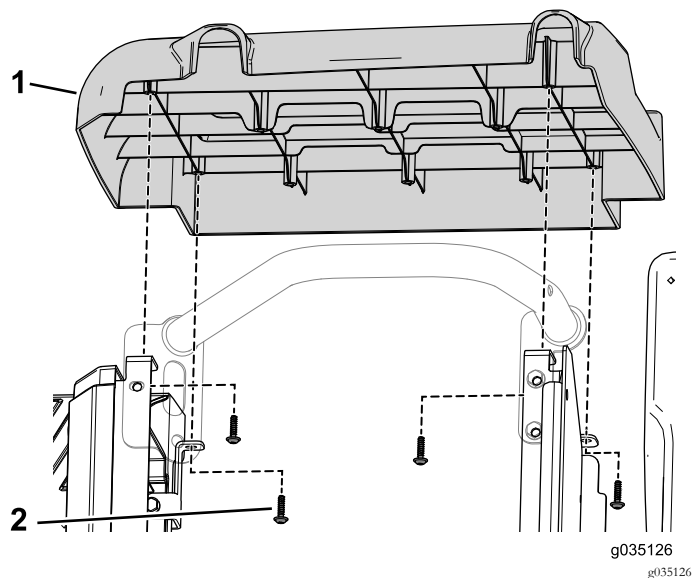

Figure 55
3. Remove the 4 self-tapping screws securing the right side cover to the machine (Figure 55).